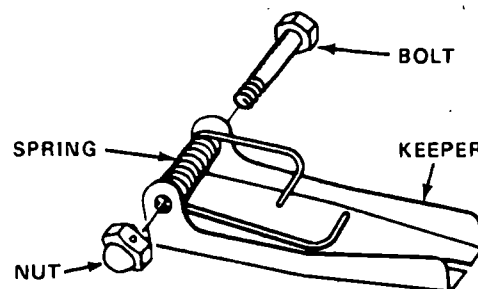

Figure 6-15. Spring-Keeper Assembly
Step 2 - Tilt the grabhook and remove the spring and keeper (Figure 6-15).